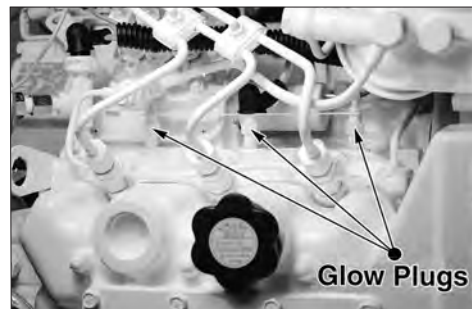

Figure 19: Glow plugs.
2. To check the glow plugs, loosen the current carrying flat wire between the plus-poles of the glow plugs (Figure 19). Connect a D.C. test bulb between the plus-pole of the battery and the plus-pole of the glow plug. If the bulb lights up, the glow plug is functioning properly.